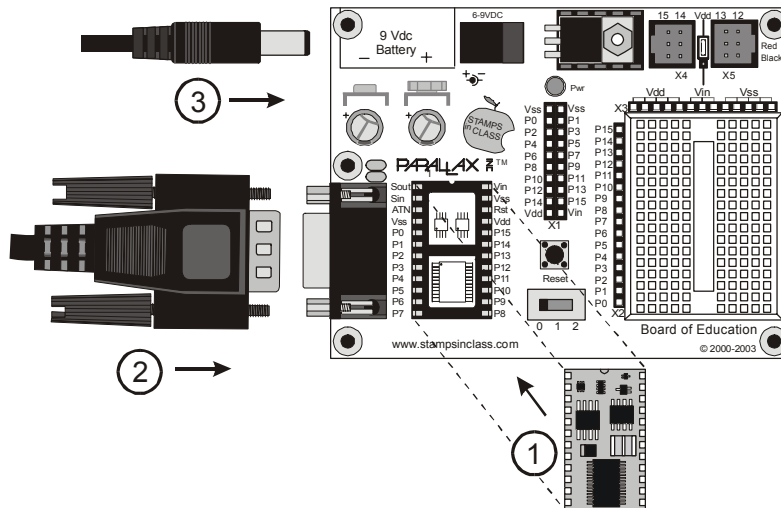

Figure 1-24
- When directed to set the 3-position switch to position-0, turn off power by disconnecting the battery pack (the reverse of Figure 1-24, step 3).
- When directed to set the 3-position switch to either position-1 or position-2, plug the battery pack in as shown in Figure 1-24, step 3.
- ✓ If your BASIC Stamp is not already plugged into your Board of Education, insert it into the socket shown in Figure 1-24, step-1.
Make sure your BASIC Stamp is right-side-up (as shown in Figure 1-24) before you insert it into the socket! If the BASIC Stamp is plugged into the socket upside-down, it could be damaged when you plug in power.
- √ Plug the serial cable into the Board of Education as shown in Figure 1-24, step-2.
- √ Plug the battery pack into the 6-9 VDC battery jack as shown in Figure 1-24, step-3.